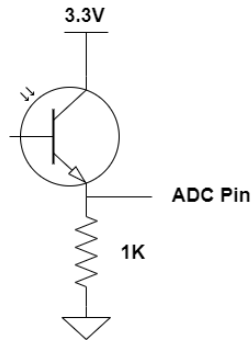

Figure 1: Phototransistor schematic for analog sensing
The first thing to do is to hook up the actual phototransistors. They fit through the holes in the bottom plate of the sensor head, and you must solder wires to the leads *after* they are inserted in the holes. The basic schematic is shown in Fig. 1, with two identical phototransistors set up in a sourcing configuration. The supply power should be 3.3V, and the resistor should be $1K\Omega$; the input should go directly into the ADC pins. Set one phototransistor to go into AD1 and the other to go into AD2.
- Figure 1 courtesy of Gabriel Hugh Elkaim (using Draw.io)